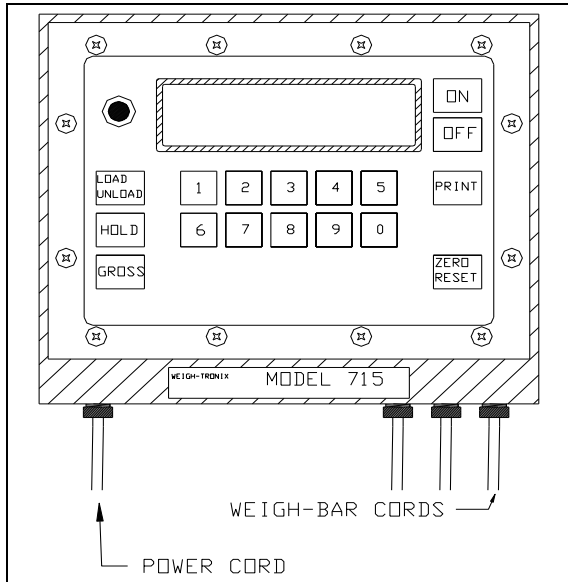

Figure 1 (Model 715 Indicator Shown)
3. Make sure the gearbox oil reservoir is filled to the proper level. (See Figure 1).
Depending on the model of JAY•LOR® Cutter Mixer Feeder, the scale indicator has either 3 or 4 weighbar cords that are attached to the outlets on the bottom of the Indicator. These should not be confused with the power supply, which will not attach in the same outlet. The weighbar cords are to be pushed in, and then the tightening ring threaded into place. Make sure that the plugs are free of any moisture and other contaminants, as this may affect the performance of the weighing system. (See Fig. 1)
The oil reservoir shown in Fig. 1 is constructed using an acrylic body. This is a very durable material, which is able to withstand severe impact, without sustaining damage. However, if the reservoir is damaged, it must be replaced with an approved reservoir, or components, recommended by the manufacturer. If the reservoir sustains any damage, call your JAY•LOR® dealer immediately.